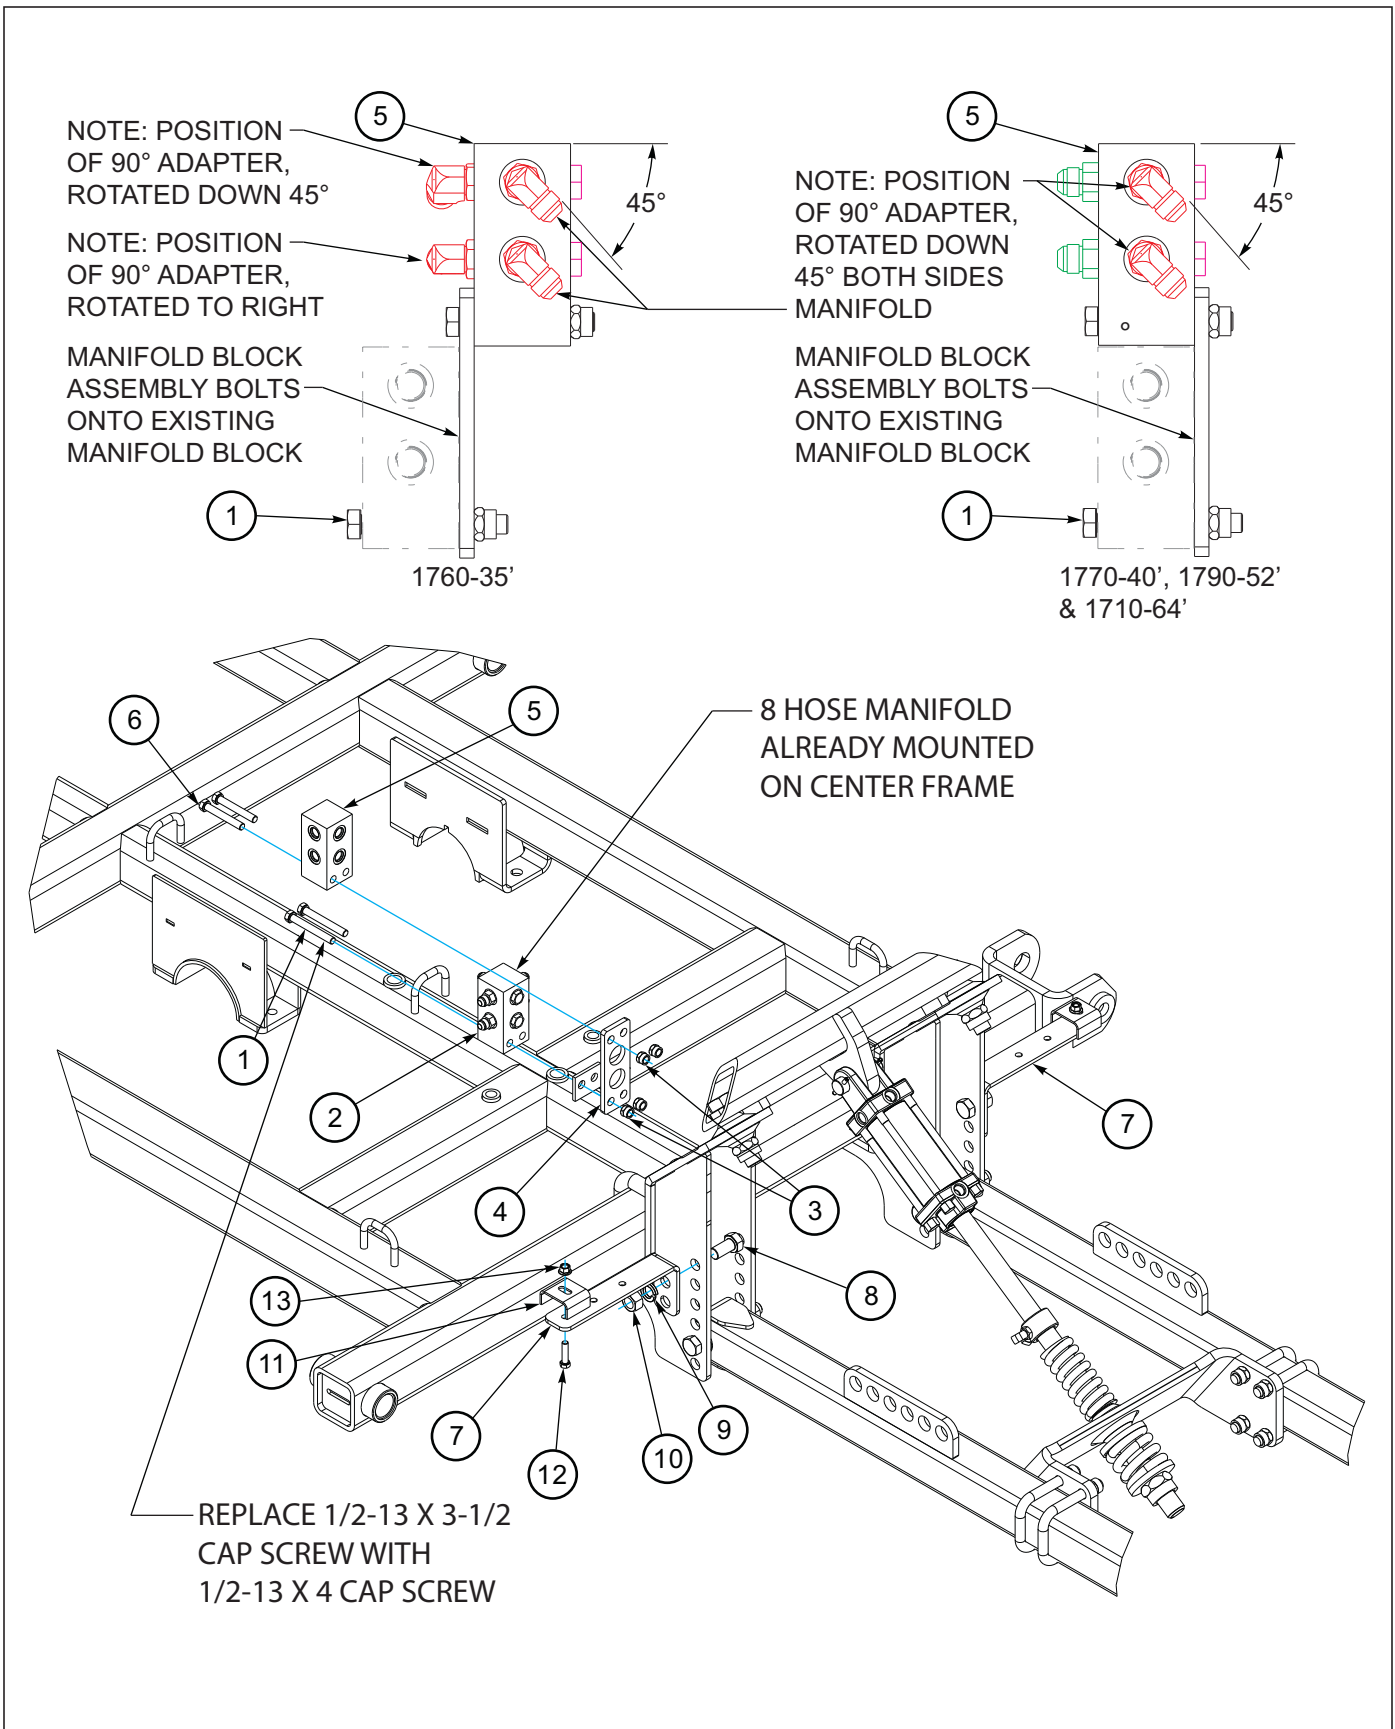

Figure 3-15: Hydraulic Manifold & Hose Mount Treader Assembly Hydraulic
7. Remove the 1/2-13 x 3-1/2 cap screws (1) from the 8 hose manifold (2) (**See Figure 3-15**). Re-install the 8 hose manifold (2) with new 1/2-13 x 4 cap screws (1), manifold mount plate (4) and 1/2-13 lock nuts (2). Attach another 8 hose manifold (2) with 1/2-13 x 3-1/2 cap screws (1) and 1/2-13 lock nuts (3).
8. Attach the hose mount plates (7) with 3/4-10 x 1-1/2 cap screws (8), 3/4 lock washers (9) and 3/4-10 x 1-1/2 lock nut (10) in the top hole of the treader arm brackets.
9. Attach the hose clamps (11) with 3/8-16 x 1-1/2 cap screws (12), and 3/8-10 x 1-1/2 flange lock nuts (13). Do not tighten until hose are routed under all clamps.
Rotate 90° adapter down 45°, both sides as shown See Figure 3-15)